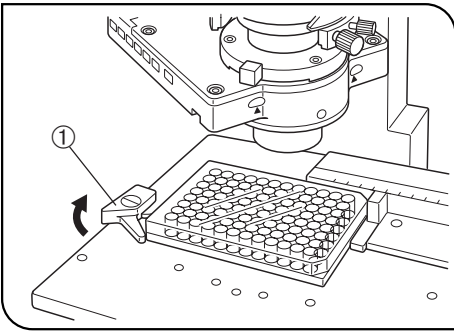

Fig. 9
(Figs. 9 & 10)
- 1. Open the spring-loaded finger of the specimen holder ① and slide the microtiter plate into the holder frame. Gently release the curved finger to clamp. (Fig. 9)